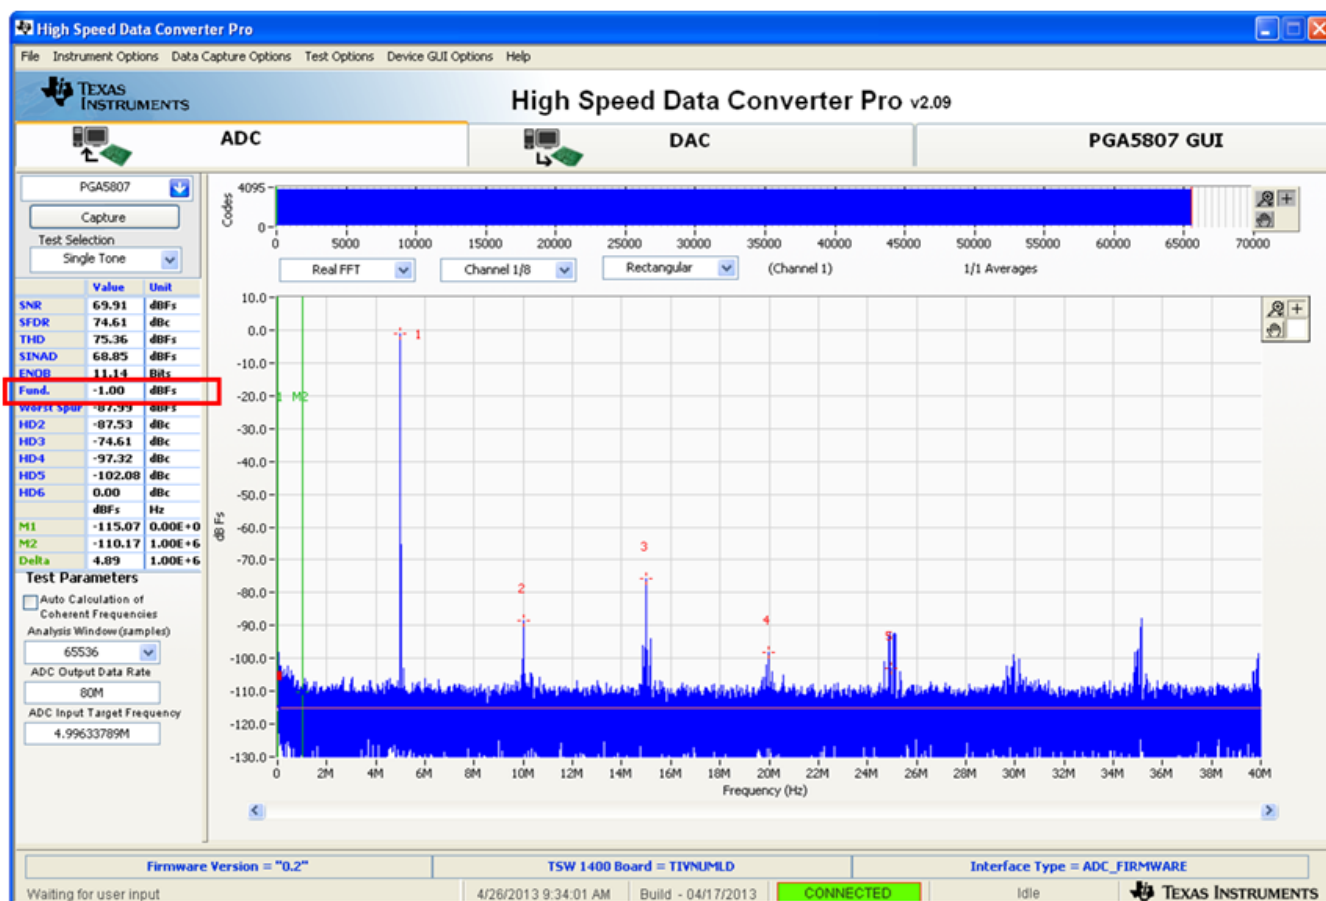

Figure 42. ADS5296 Only Sinusoidal Capture 1
- The plot will update as shown in Figure 42. Take note of the *Fund.* value in the left panel highlighted in RED in Figure 42. This value is dependent on the signal level set on the signal generator feeding the input signal to J36. It also depends on cable loss and filter insertion loss which can vary among parts. If needed, reset the signal amplitude (level) until the *Fund.* value is approximately -1.0 dBFS, as this is the condition for which the datasheet specifications are set. The input level was iteratively adjusted to achieve -1.0 dBFS as seen in Figure 42.